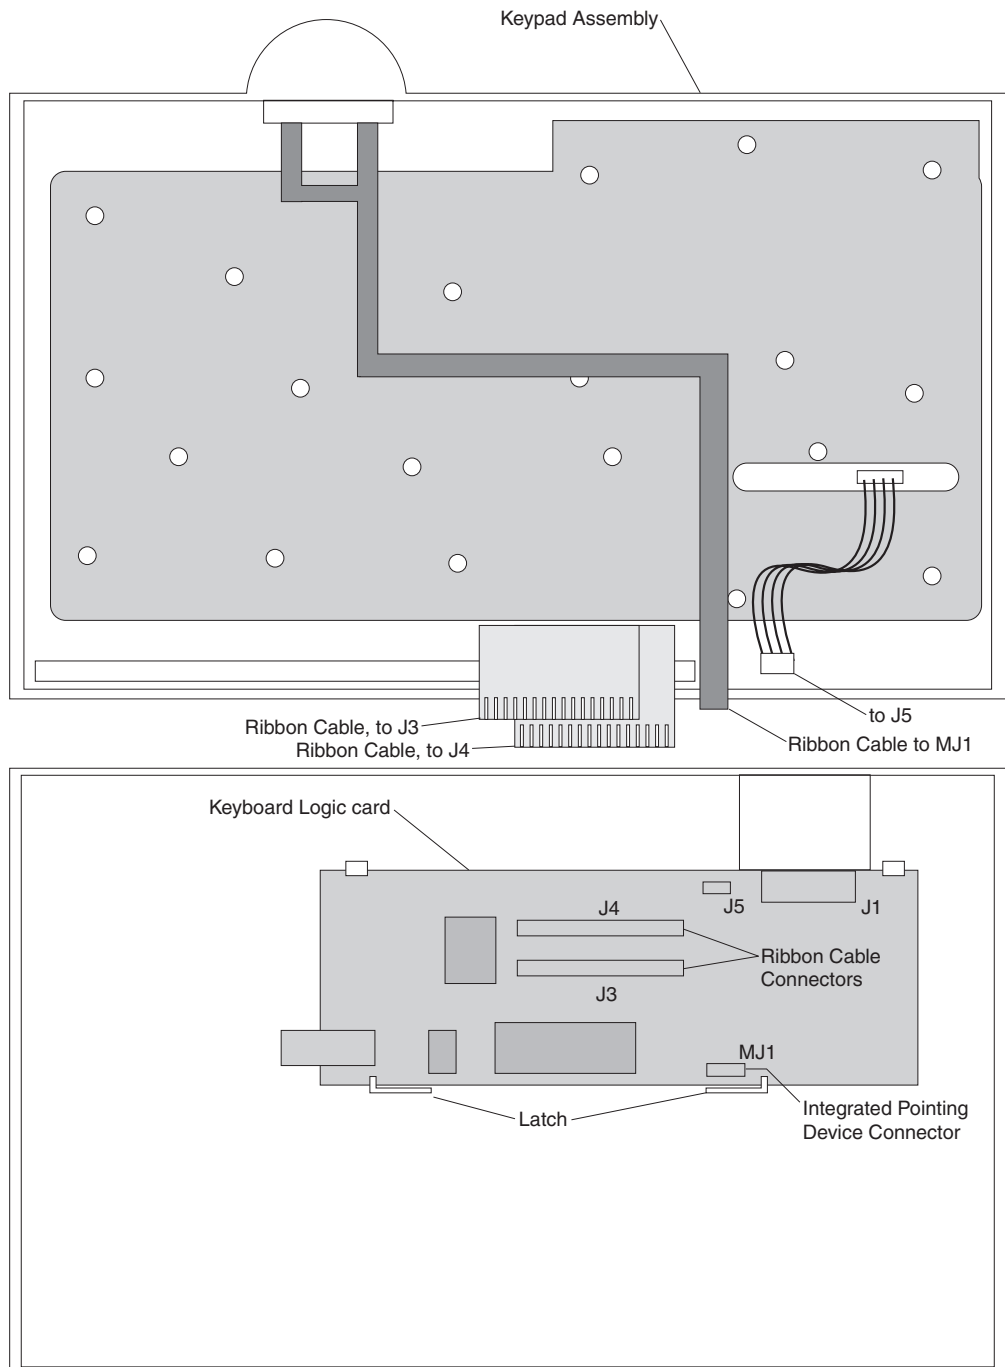

Figure 111. CANPOS keypad assembly without MSR
- d. Disconnect all cables between the keypad assembly and the keyboard logic card. See Figure 111 for cable callouts and locations.
2. Pull the two card-retention latches away from the card and lift the logic card out of the keyboard base. See Figure 111 on page 140 for card and latch locations.